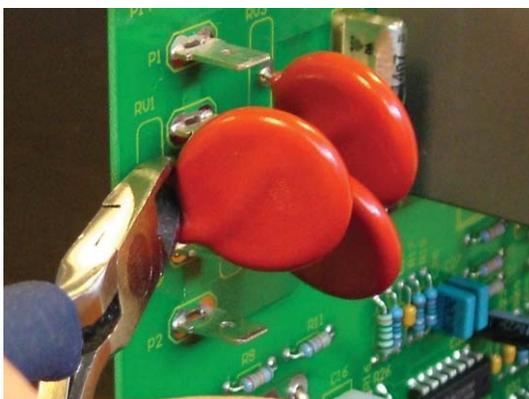

Fig. 6-1, MOV Removal
4. Remove the damaged MOVs using your wire cutters. See Fig. 6-1.